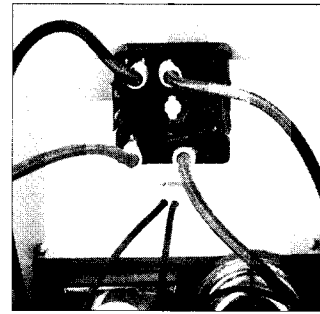

Figure 40
8. Reconnect wires to switch in exact manner as they were previously hooked up (see Figure 40).